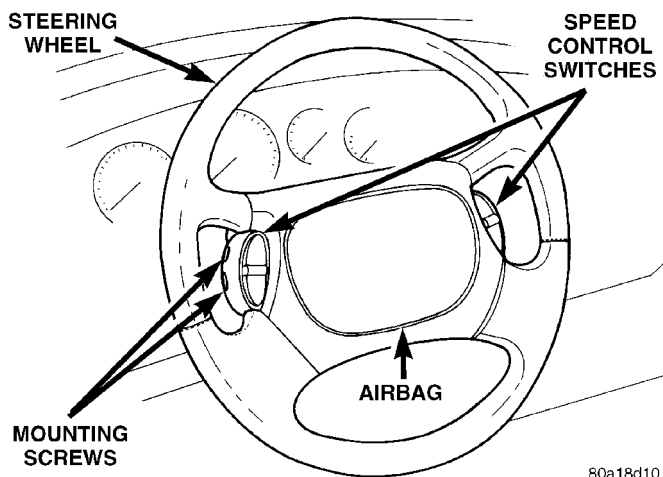

Fig. 8 Speed Control Switches
(5) If vehicle is equipped with speed control, remove the speed control switches from the steering wheel (Fig. 8). If vehicle is not equipped with speed control, remove the trim covers from the sides of the steering wheel.